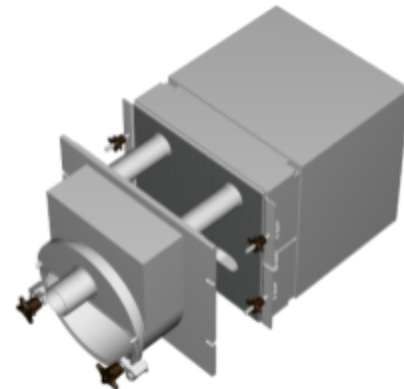

FIGURE 5
4. Place the burner body in the block (see Figure 5).